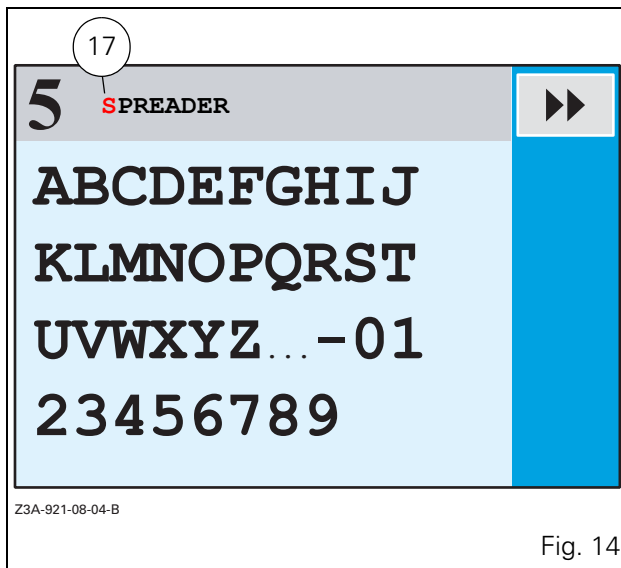
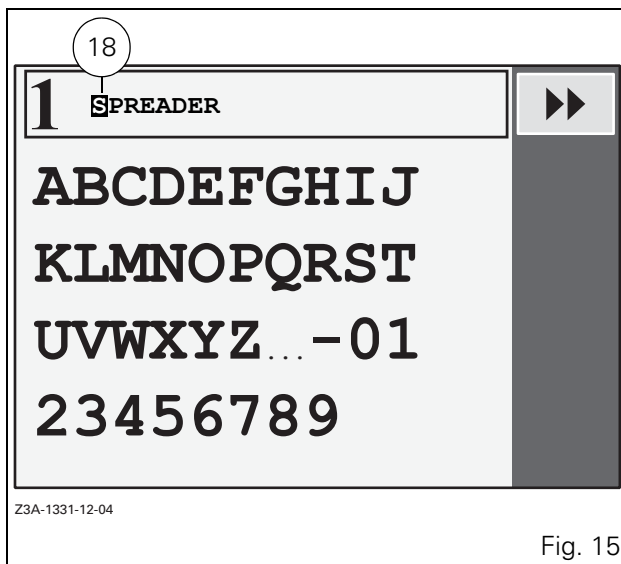

Fig. 14
Fig. 15
- Press the key «₂ (CHANGE) to modify the name. The first letter of the word "SPREADER" is displayed in a new window in red on colour screens (17 Fig. 14) or in reverse video on b/w screens (18 Fig. 15).